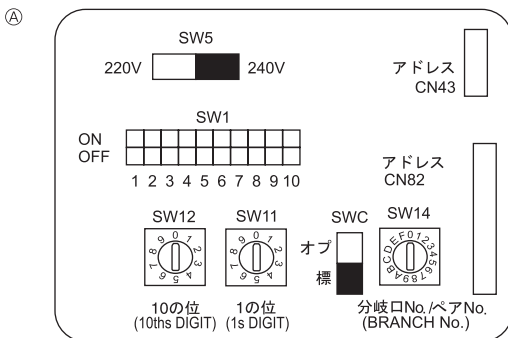

Fig. 4-4
4.5. Setting addresses (Fig. 4-4)
4.6. Sensing room temperature with the built-in sensor in a remote controller (Fig. 4-4)